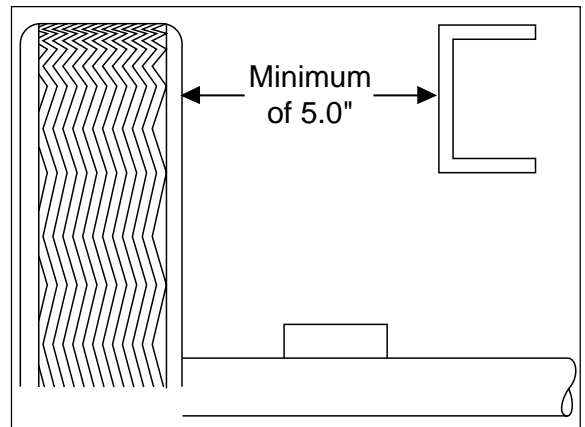

Figure 3
4. Measure the distance between the tire and outside of frame rail (Figure 3). *You must have a minimum of 5" to provide clearance for the air spring when fully inflated.*